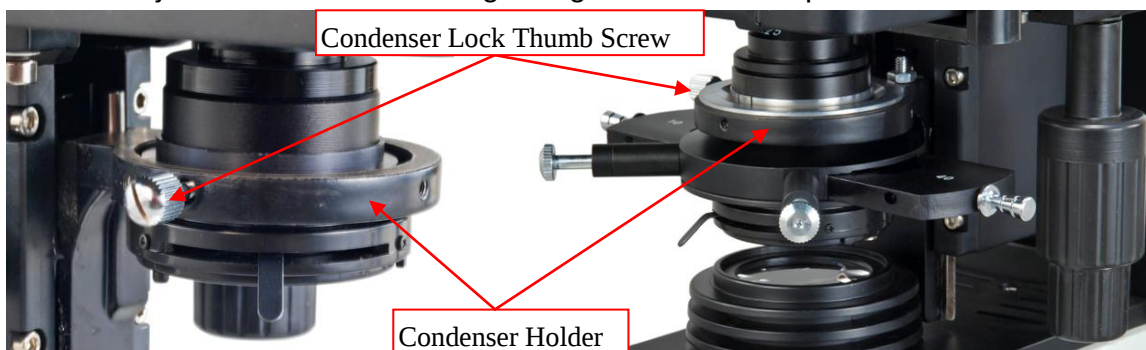

Fig.20
- e. Loosen the condenser lock thumb screw (**Fig. 20**), pull down the condenser and take it off.
- f. Insert the condenser/annular ring disk into the condenser holder, and tighten the thumb screw (**Fig. 20**).